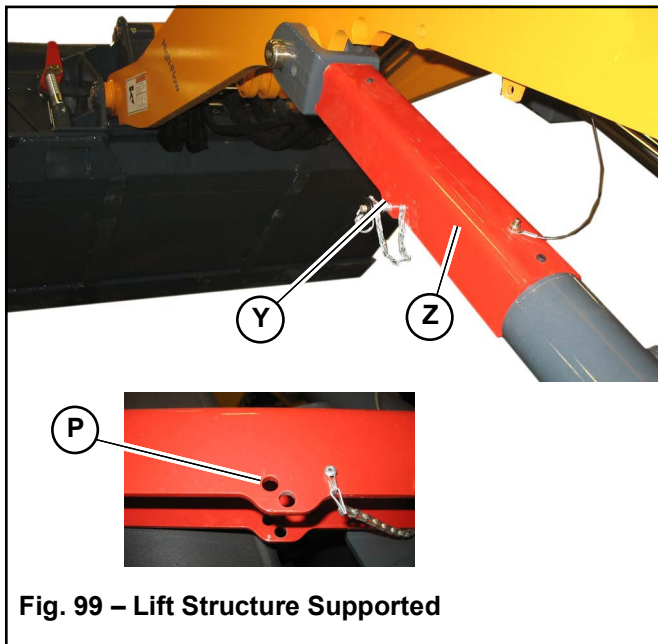

Fig. 99 – Lift Structure Supported
**NOTE:** Press button (W) to release catch on retaining pin (Y).
- Carefully position the lift structure support (Z, Fig. 99) over the exposed lift cylinder rod on the left lift cylinder as shown.